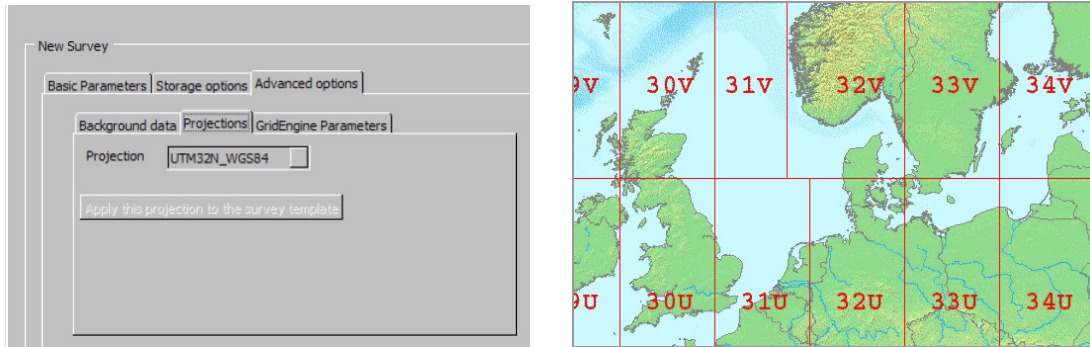

Figure 5: (left) Projections display - (right) UTM cells in the North Sea
- **Map projection:** Select **Advanced options/Projection** (Figure 5, left). Select the applicable projection from the drop-down list. For the North Sea the map projection should be either **UTM31N\_WGS84** or **UTM32N\_WGS84** depending on the working area (Figure 5, right).